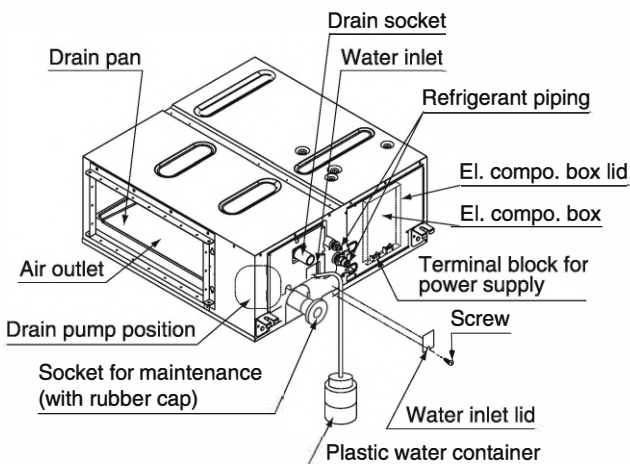

Fig. 15
- While replacing with new indoor unit, use the attached new drain hose (2) and the metal clamp (1). If an old drain hose or a metal clamp is used, it may cause water leakage.
**(2) After piping is finished, check if the drain flows smoothly.**
- Gradually pour 1 liter of water from the inspection port at the bottom of the drain socket on the left side of the drain socket into the drain pan giving caution to avoid splashing water on the electric components such as drain pump and confirm drainage by operating the indoor unit under cooling mode according to 10. FIELD SETTING. (Refer to Fig. 15)
3. Gradually pour 1 liter of water from the air outlet on the left side of the drain socket into the drain pan giving caution to avoid splashing water on the electric components such as drain pump. (Refer to Fig. 15)